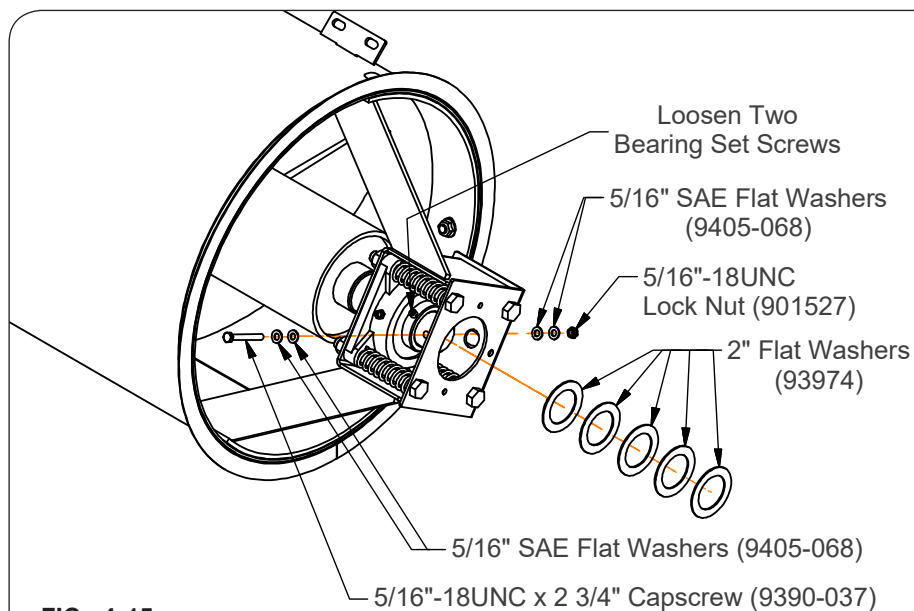

FIG. 4-15
2. Loosen the two bearing set screws. Remove and save the 5/16"-18UNC x 2 3/4" capscrew (9390-037), four 5/16" SAE flat washers (9405-068) 5/16"-18UNC lock nut (901527) and 2" flat washers (93974). (FIG. 4-15)